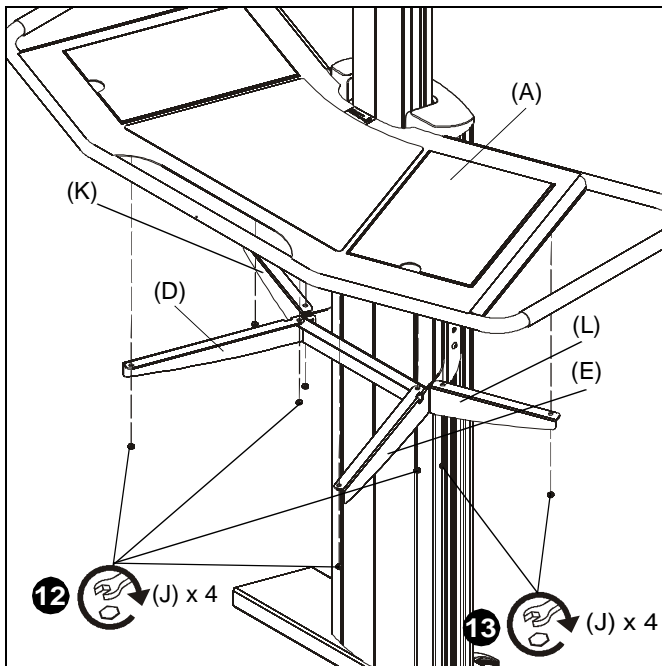
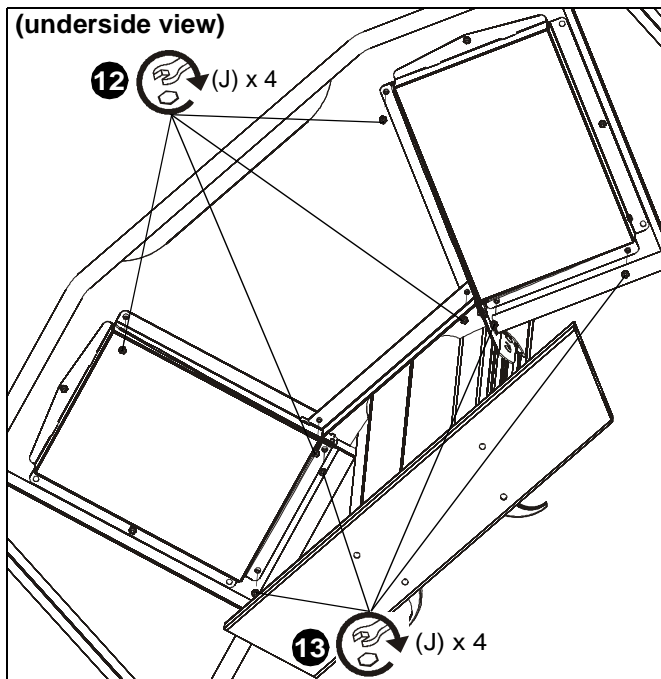

Figure 4
Figure 5
11. Place large shelf (A) onto support brackets (C, D, E, K and L) making sure corresponding screws on underside of shelf line up with mounting holes on brackets. (See Figure 4) and (See Figure 5)
12. Use four #10-24" lock nuts (J) to secure right and left shelf supports (D and E) to large shelf (A). (See Figure 4) and (See Figure 5)
13. Use four #10-24" lock nuts (J) to secure right and left horizontal supports (L and M) to large shelf (A). (See Figure 4) and (See Figure 5)